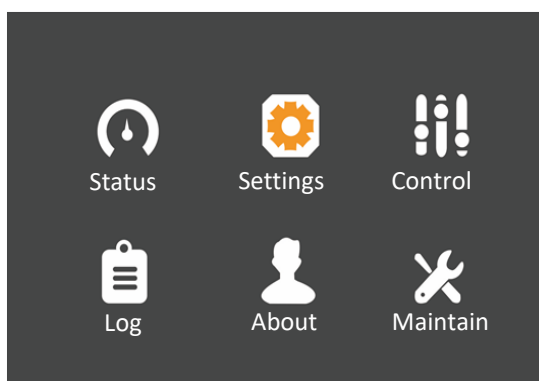

Figure 5-20 Main Menu
1. After switching the UPS on, access the main menu screen and press the  or  key to move the cursor to select 'Settings'. See Figure 5-20.